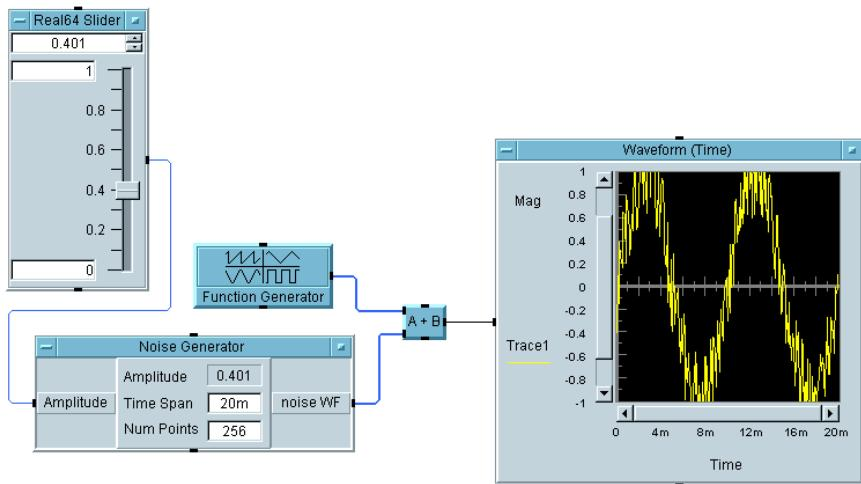

Figure 2-13. simple-program.vee
1. Open the program simple-program.vee. The program should look like Figure 2-13.